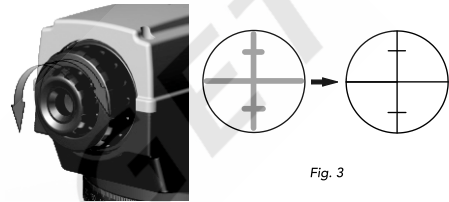

Fig. 3
- Rotate the eyepiece to make the reticle clear (fig. 3).